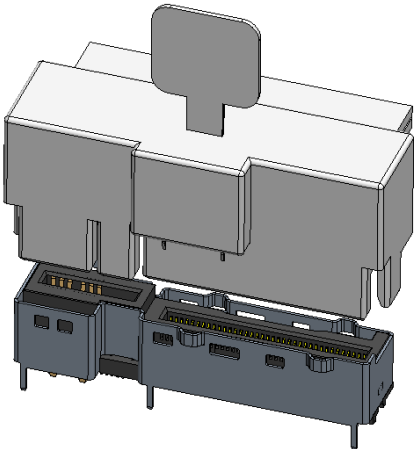
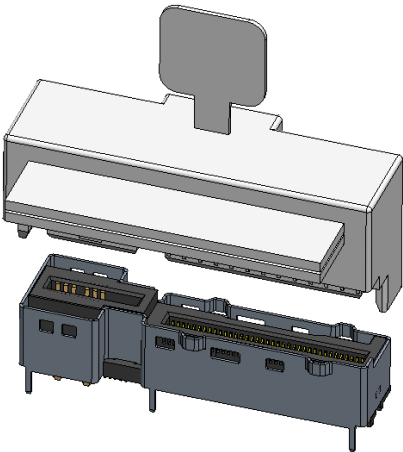
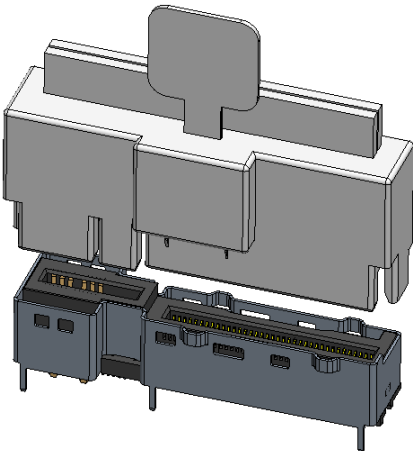

Figure 4-8 Combo x8+21A Power RA Cable Application
Figure 4-9 Combo x8+21A Power RRA Cable Application
Figure 4-10 Combo x8+21A Power STR Cable Application
2. A single combo cable can plug into the Vertical Combo DE x8+21A Power connector as shown in Figure 4-8, Figure 4-9, or Figure 4-10.